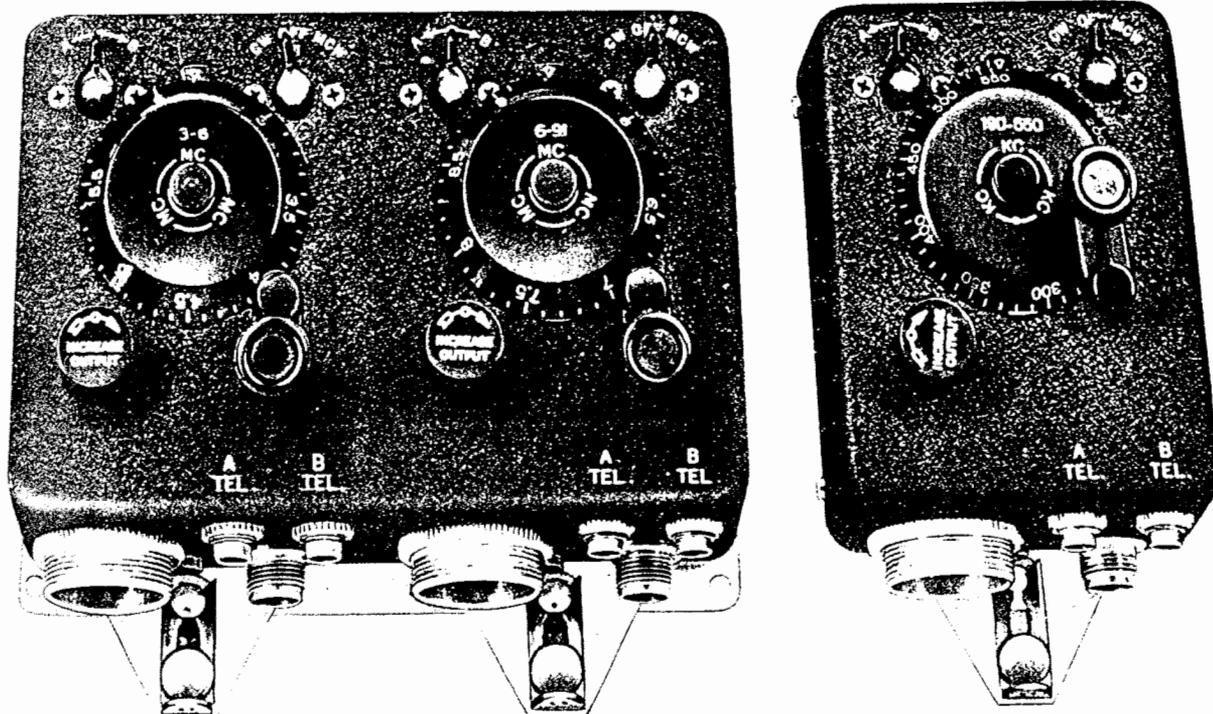

FIGURE 10—LEFT, RADIO CONTROL BOX BC-496-A (FOR TWO RECEIVERS);
(1) Radio Control Box BC-450-A provides for three radio receivers. It is shown in Figures 1 and 9, and a schematic circuit diagram of the electrical connections is shown in Figure 26. Radio Control Boxes BC-496-A and BC-473-A (or -B) provide for two and one receivers, respectively. They are shown in Figure 10. Practical wiring diagrams for the three units are shown in Figure 45. Electrically and mechanically, except for the calibration markings on the dials, each section of these radio control boxes is like every other section. Each section is used independently to tune and control one receiver.